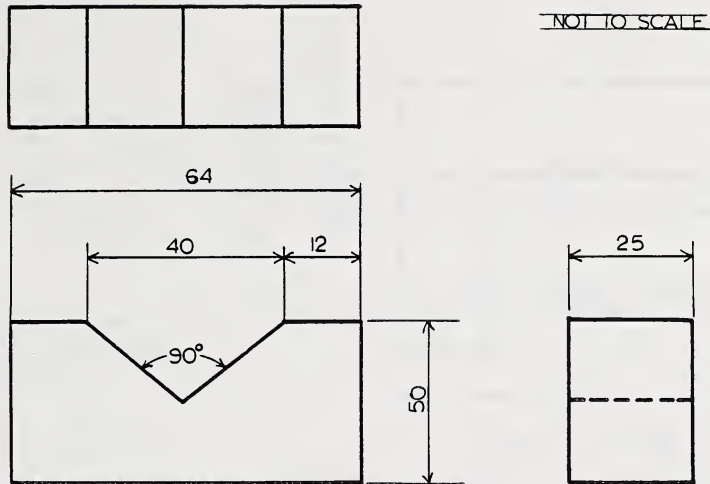

Figure 3: V-BLOCK
1. In Figure 3, why is there a vertical line in the centre of the top view?